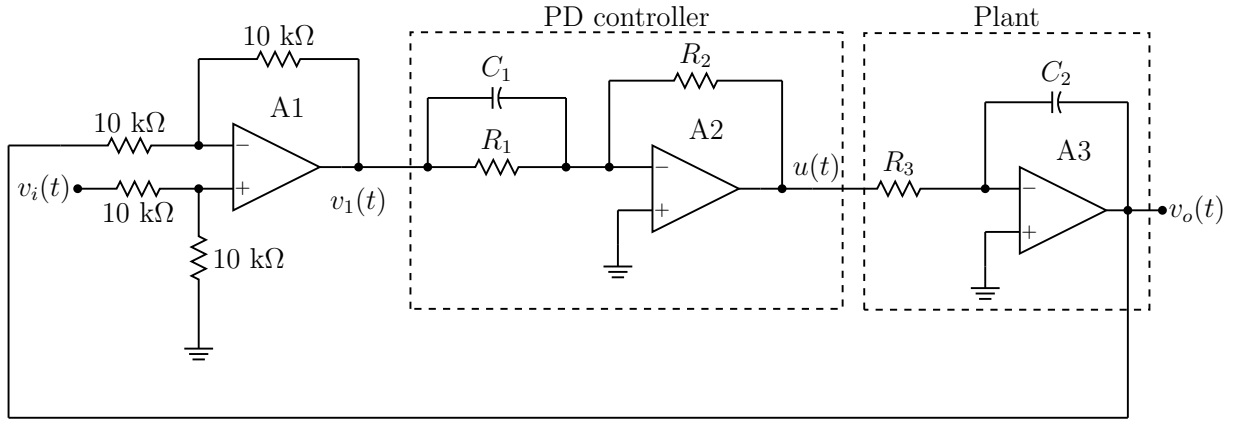

Figure 5: Op-Amp circuit
4. Assume all operational amplifiers in the circuit of Figure 5 are ideal.